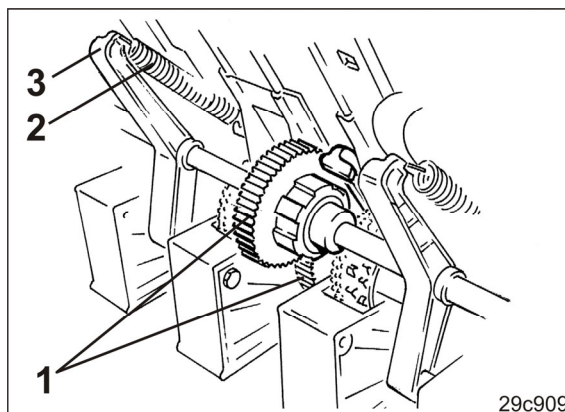

Fig. 245
8. Mesh the cogs (Fig. 245/1) of the lay shaft coupling and the seeding shaft spur gear.
9. Hook in the tension springs (Fig. 245/2) on the pivot bearings (Fig. 245/3).